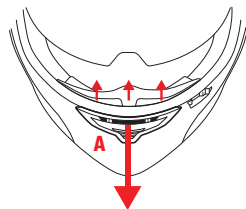

FIGURE 4
- Figure 4: air intake fully open.